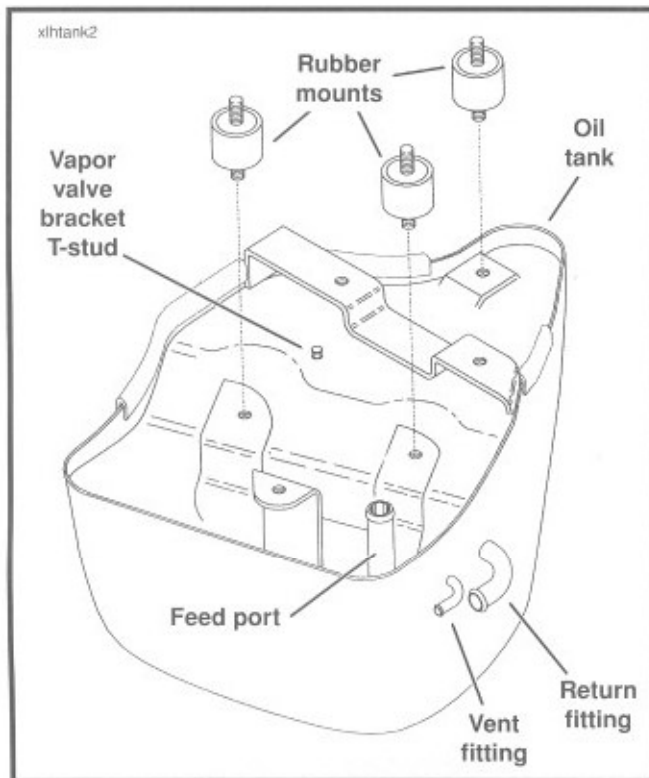

Figure 3-44. Remove/Inspect Rubber Mounts
12. See Figure 3-44. Remove three rubber mounts from oil tank. Inspect rubber mounts for cuts, tears or general deterioration. Replace as necessary.